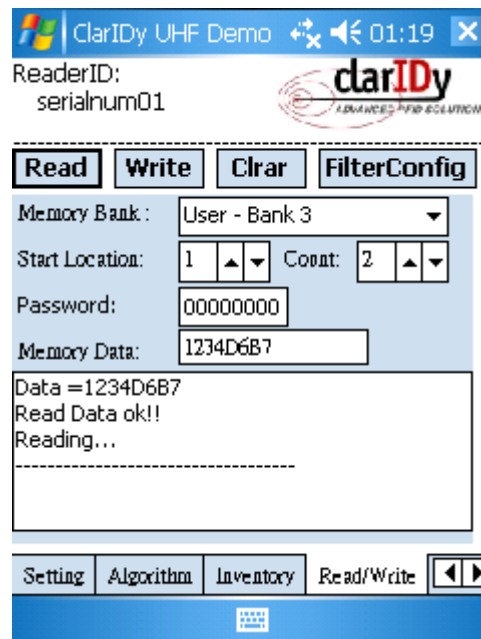
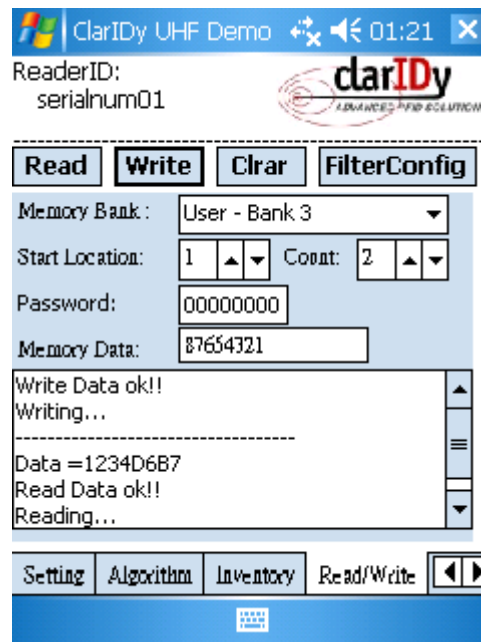

Figure 20 Read the Tag Data of User Memory
Figure 21 Write the Tag Data of User Memory
11. Click the “Read” button or “Write” button, as Figure 20 and Figure 21.